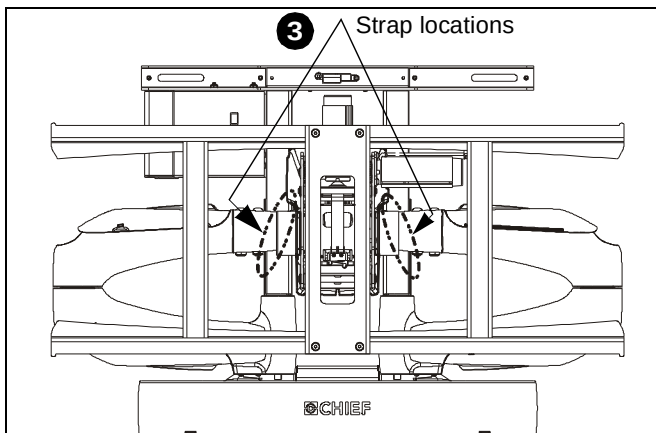

Figure 18
3. Remove two orange Velcro® straps holding PXR arms in place. (See Figure 18)